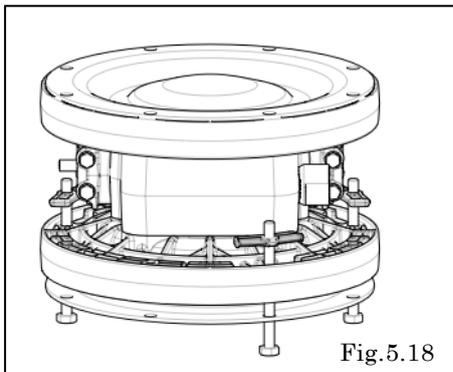
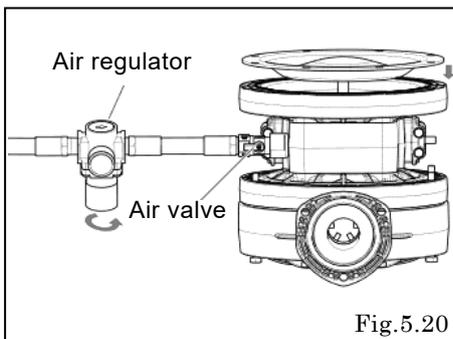
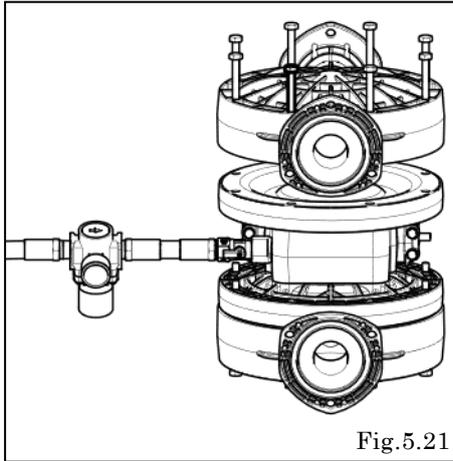

Fig.5.18
Fig.5.20
Fig.5.21
- When tightening the diaphragm at Fig. 5.20, the holes on the diaphragm should be at the same positions as the 8 screw holes on the air-chamber. Basically, those hole positions should be adjusted by rotating the diaphragm clockwise. If it is difficult, move the diaphragm counter-clockwise a little bit to adjust them [Fig.5.18]
- Install the out-chamber to the side where the diaphragm has been put on, as mentioned in the above Fig.5.21. [Fig.5.18].
- Press the reset button, open the valve, and gradually open the air regulator until the air supply pressure becomes a little bit below 0.1MPa. Then the diaphragm will slowly go down. (If the diaphragm doesn't move at the pressure 0.1MPa, stop the air supply and check if there is nothing wrong with how the pump is assembled.) [Fig.5.20]
- When the diaphragm finally touches the air chamber and there becomes no gap between the diaphragm and the air-chamber, install the other out-chamber with the air being supplied. [Fig.5.21]